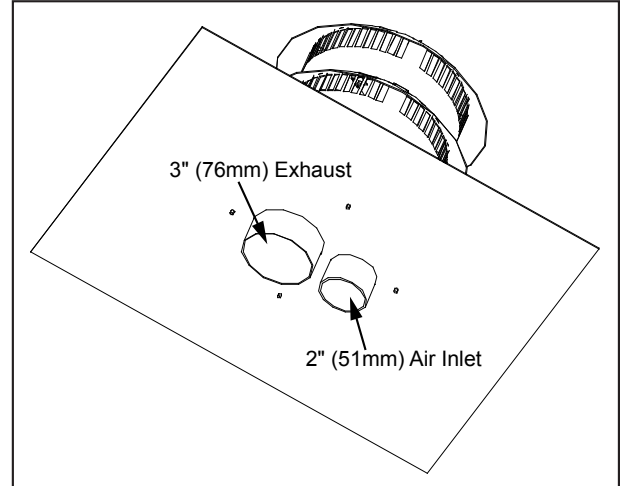

Figure 37: Vertical Vent Cap Underside.
- Place a bead of high temperature silicone on the intake collar of the fireplace, slide the Ø2" (51mm) flex intake liner over the collar, secure the flex liner with three (3) sheet metal screws evenly spaced.
- At the top of the chimney, apply a bead of Mill-Pac Black sealant to the Ø3" (76mm) pipe of the vent terminal (refer to Figure 37). Slide the flex liner onto the vent terminal and secure with three (3) sheet metal screws evenly spaced.